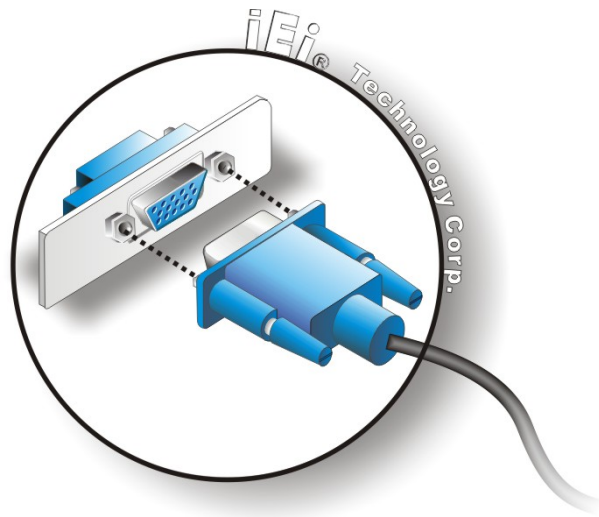

Figure 3-29: VGA Connector
- Step 3:** **Insert the VGA connector** Once the connectors are properly aligned with, insert the male connector from the VGA screen into the female connector on the TANK-800. See **Figure 3-29**.